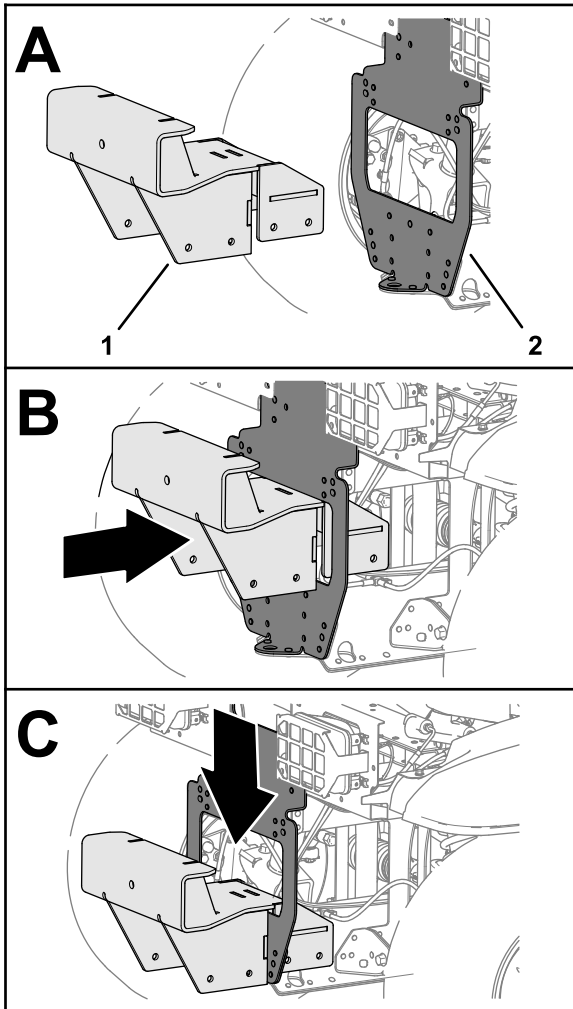

Figure 48
1. Assemble the ball-picker mount onto the bumper support as shown in Figure 48.